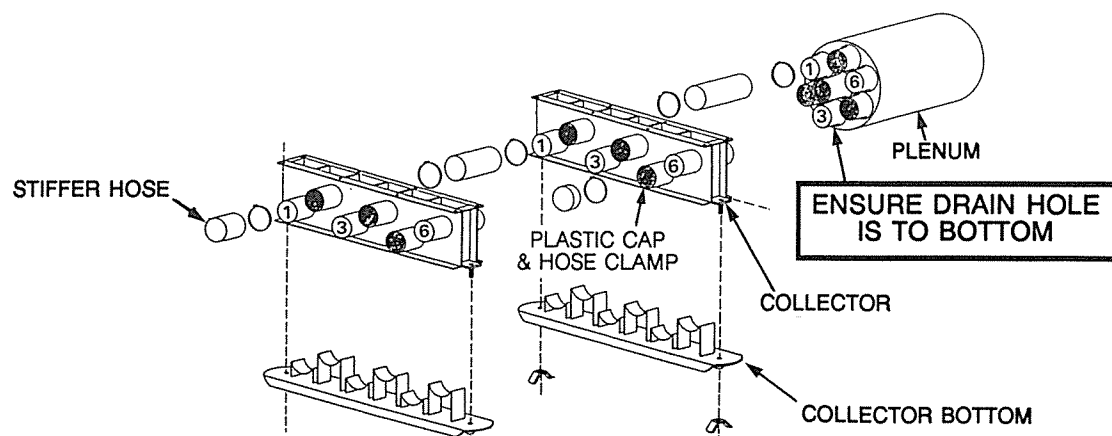

Figure 43
**(A)** For Units using 3 primaries for up to 30 runs, the plenum should be mounted to the fan and the collectors mounted to the metering bodies as shown in Figure 43.